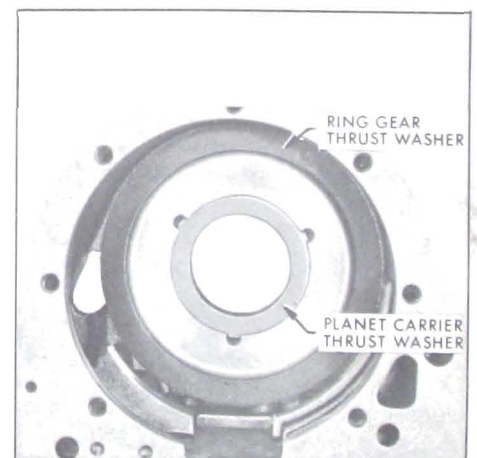

Figure 5-108—Ring Gear and Planet Carrier Thrust Washers Installed
1. Install reverse ring gear rear thrust washer and planet carrier rear thrust washer in transmission case. See Figure 5-108.